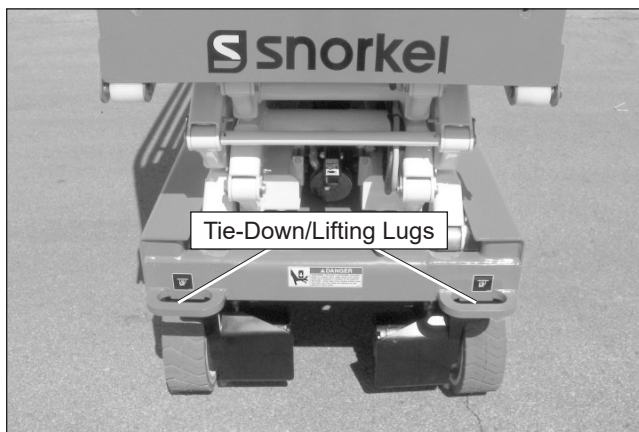

Figure 10.3 – Front of Chassis
5. Attach the winch line to the tie-down lugs (refer to Figure 10.3) on the front of the chassis.
3. Attach the winch line to the tie-down lugs (refer to Figure 10.3) on the front of the chassis.
2. Inspect the front lifting lugs and the rear lifting lugs (refer to Figures 10.3 and 10.7) to make sure they are free of cracks and are in good condition. There are two lugs on the rear of the chassis and two on the front. Have any damage repaired by a qualified service technician before attempting to hoist the machine.